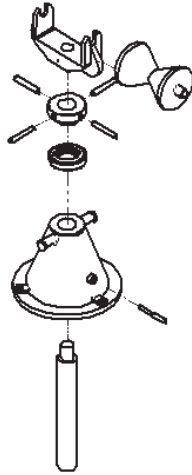

Figure 12-25 Exploded view
5. Place the view on the drawing sheet. An exploded view is shown in Figure 12-25.